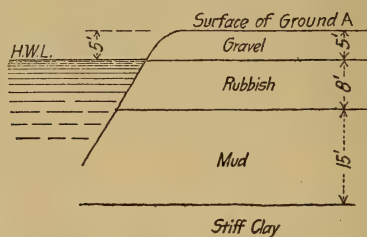

FIG. 10.
5. Design a foundation for a column to be placed at A (Fig. 10) to support a load of 350 000 lb.